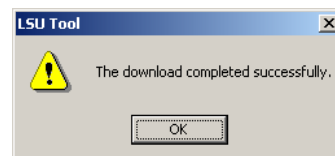

Figure 255: Successful Firmware Upgrade.
3. If the upgrade is successful, the following window appears (Figure 255).